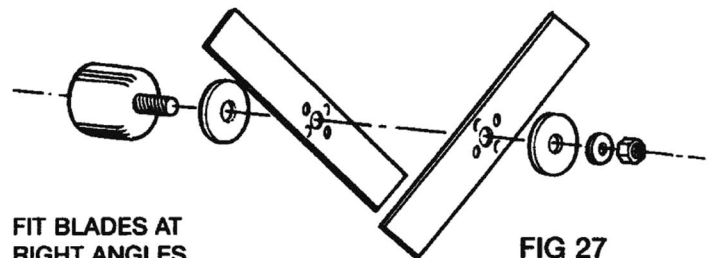

FIG 27
4. Remove one small and one large washer and two blades (Fig 27). Before installing blade and washers, clean all grit and grease. Assemble these parts clean and dry. Fit new blades with spiggots of one blade interlocking with holes on opposite blade and nut. Tighten nut to 15-20 ft. lbs. (20-27Nm) or hand tight with 8" (200mm) or longer spanner or use impact wrench.